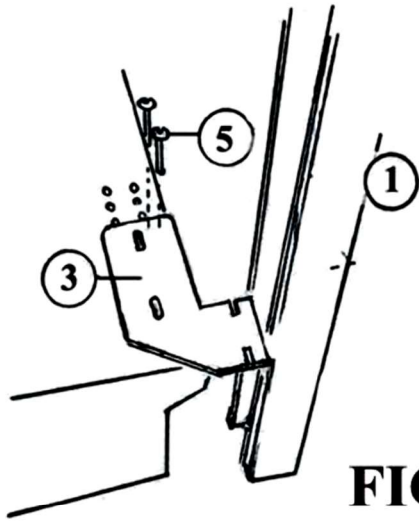

FIG. 1
- A) Twist Attachment Clip (3) onto Post. (1) Then bolt Attachment Clip (3) to the bottom of the Base Shelf using 20 - 5/8" x 1/4" Bolts. (6) (See FIG. 1 on Page 2)